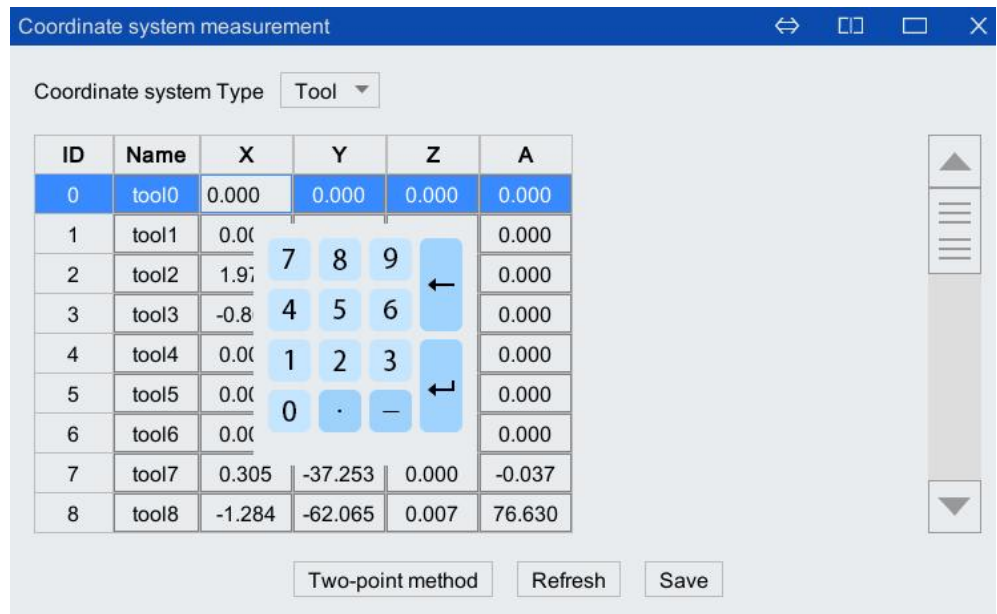

Figure 5-53 Modify the value of X, Y, Z, A through the small keyboard
- Step2. Click the cell in the line of "Tool Coordinate System" to be set, keep it editable, and modify X, Y, Z, A, B, C to the required values through the keypad. Refer to Figure 5-53.